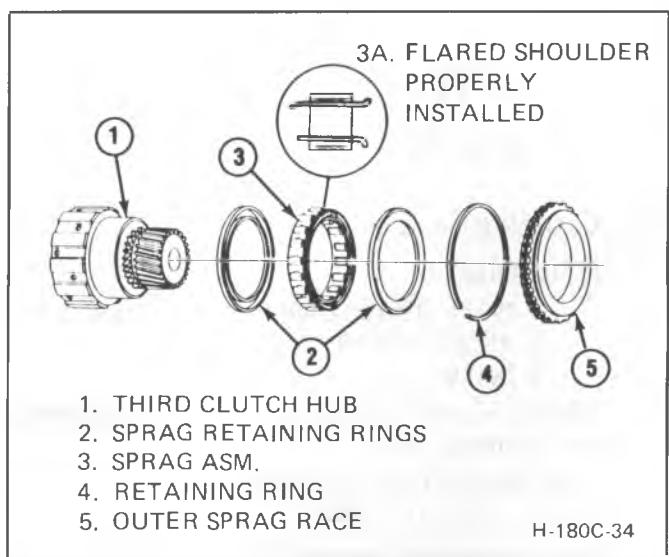

Figure 29 Sprag Assembly
Sprag Unit**Disassemble (Figure 29)**
**Inspect (Figures 29 and 30)**